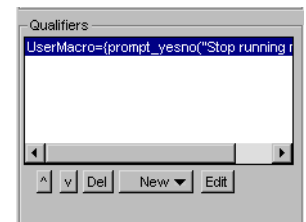

Figure 4-22 Set breakpoint with macro attached
7. The Set Address/Data Breakpoint dialog box now contains the macro in the Qualifiers group for the conditional breakpoint, shown in Figure 4-22.